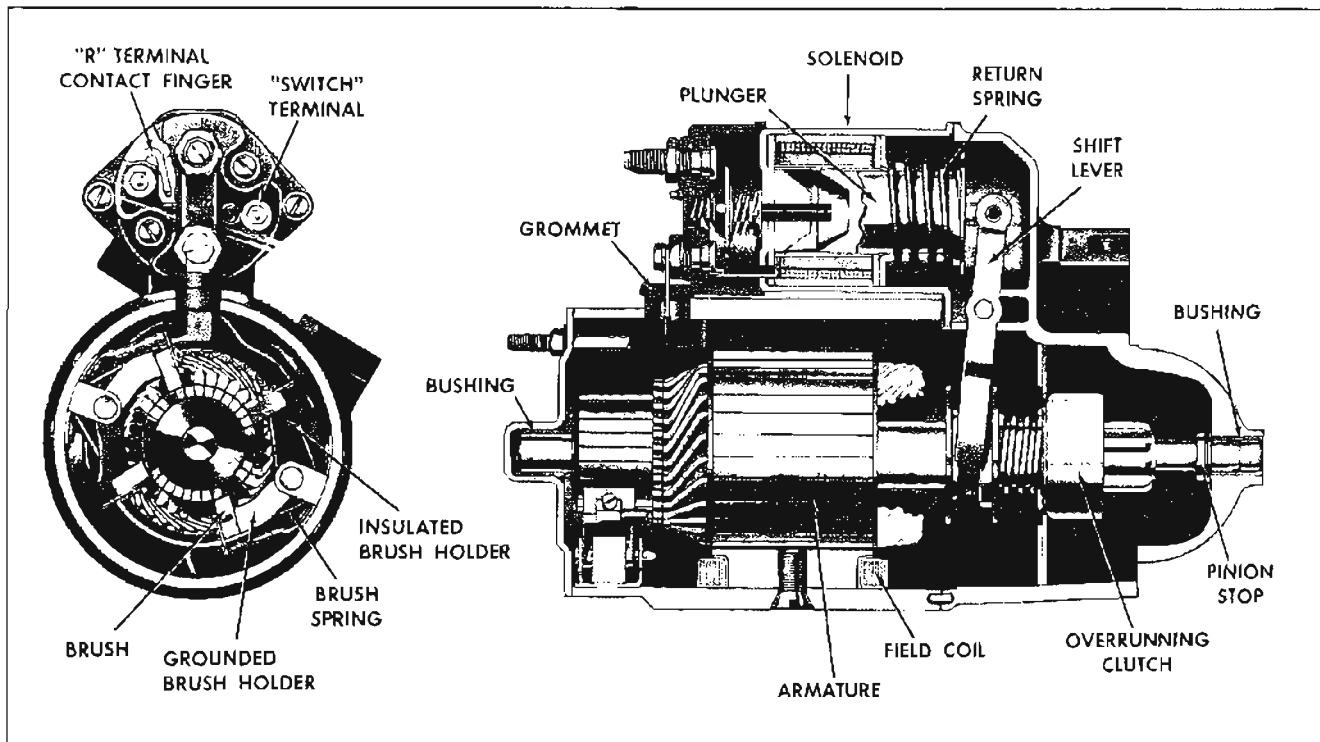

Figure 10-25—Cranking Motor—Sectional View
4. Check ammeter reading. For an accurate voltage setting check, ammeter must read between 3 and 10 amperes. (If ammeter reading is still high after 15 minutes, it may be necessary to substitute a fully charged battery.) Momentarily increase engine speed to approximately 2000 RPM and read voltmeter and thermometer. See Figure 10-25 to determine if upper voltage regulator setting is within limits for the existing temperature. If setting is within limits and battery condition has been satisfactory, voltage setting should not be disturbed.
The cranking motor assembly consists of a motor, drive assembly, shift lever, and solenoid switch. See Figure 10-25. It is mounted on the flywheel upper housing on the right side of engine.
The drive assembly pinion is moved into engagement with flywheel ring gear by action of the solenoid upon the shift lever, which engages the shift collar of drive assembly. The shift collar moves the drive assembly by pushing on the clutch spring, which serves as a cushion in case the pinion and gear teeth butt instead of meshing. The helical splines assist in obtaining proper pinion engagement. The drive pinion is pulled out of engagement, after engine starts, by action of the shift lever return spring. The shift lever is connected to the solenoid switch plunger by a link and adjusting screw. See Figure 10-25.
The solenoid section of the switch has a plunger and two windings, the "pull-in" winding and the "hold-in" winding. Together, they provide sufficient magnetic attraction to pull the solenoid plunger into the solenoid. The plunger actuates the shift lever and drive assembly and it also closes the solenoid switch contacts by pressing against a push rod upon which a contact disk is mounted between two coil springs. One spring serves as a cushion to insure firm contact of the disk with two stationary contacts. The other spring pushes the disk away from the stationary contacts to break the circuit when the solenoid is demagnetized after the engine starts. One stationary contact is connected to the battery positive cable and the other is connected to the motor windings through a connector or bus bar. See Figure 10-25.
When it is necessary to disassemble cranking motor for any reason, make a complete clean-up and inspection to make sure all parts are in satisfactory condition. See Figure 10-25 for identification of parts.